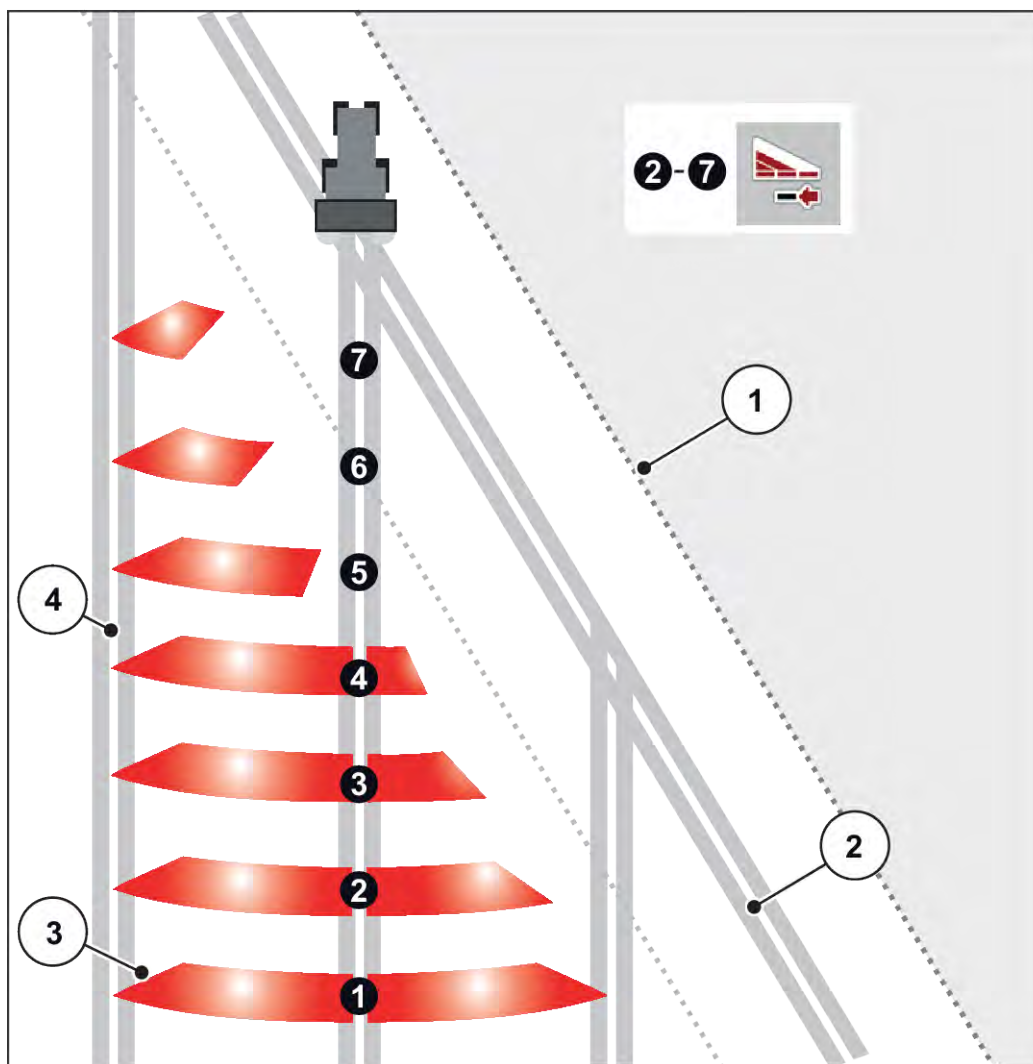

Fig. 42: Automatic section control
- Section control is possible from the outside to the inside or vice versa. See Fig. 42 Automatic section control.